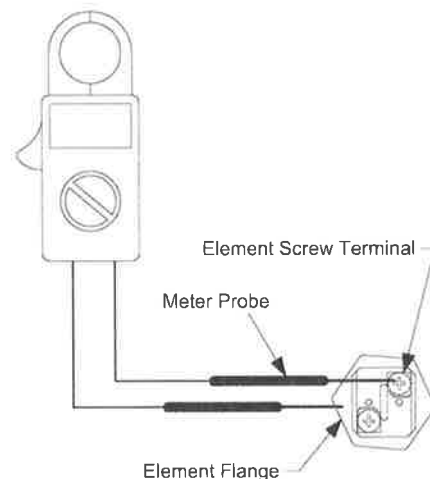

Figure 5
Step 5. Touch one probe of multi-meter to either screw terminal of heating element and the other on the element flange (see figure 5). There should be no reading on the ohm meter. Any reading indicates a grounded element and the element must be replaced. Repeat this step for the other screw terminal.